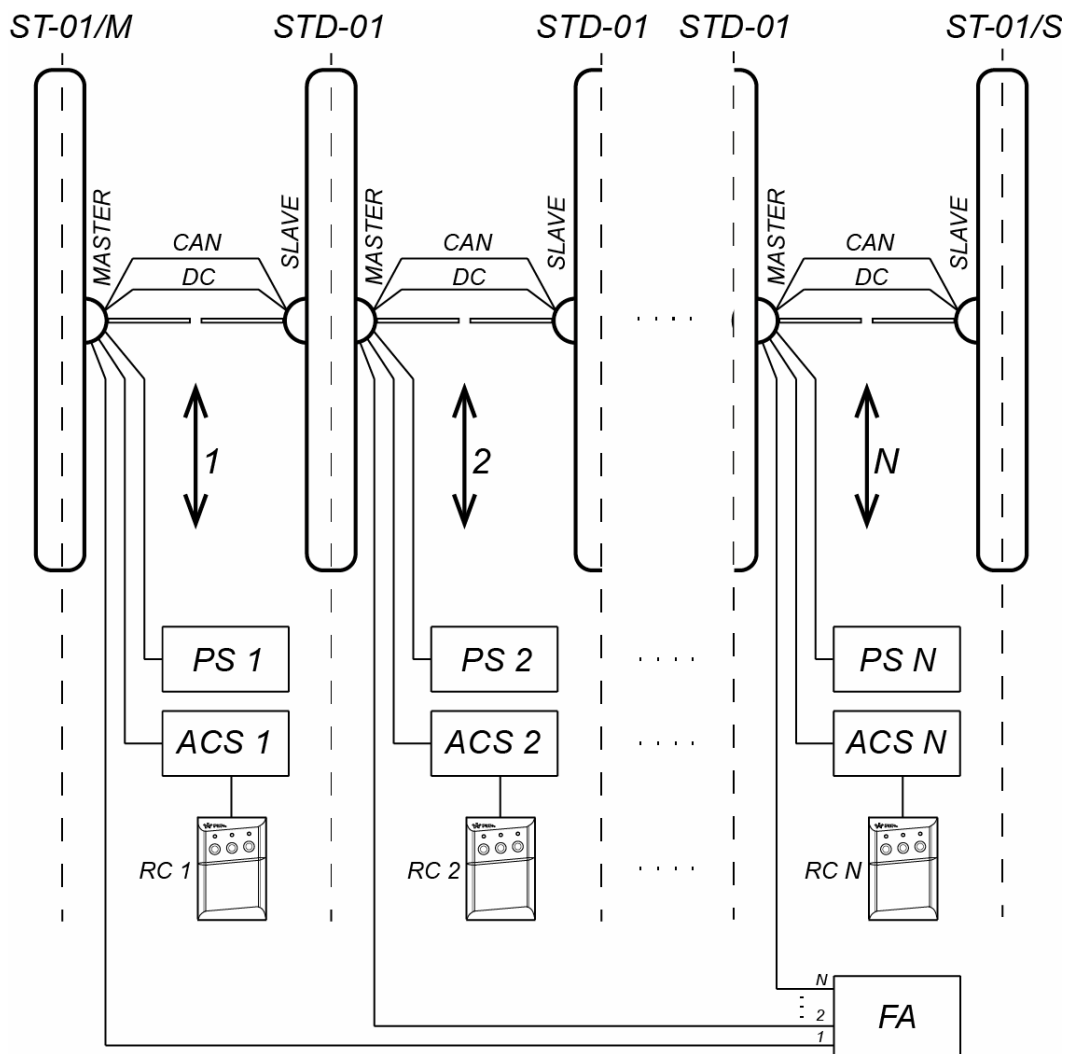
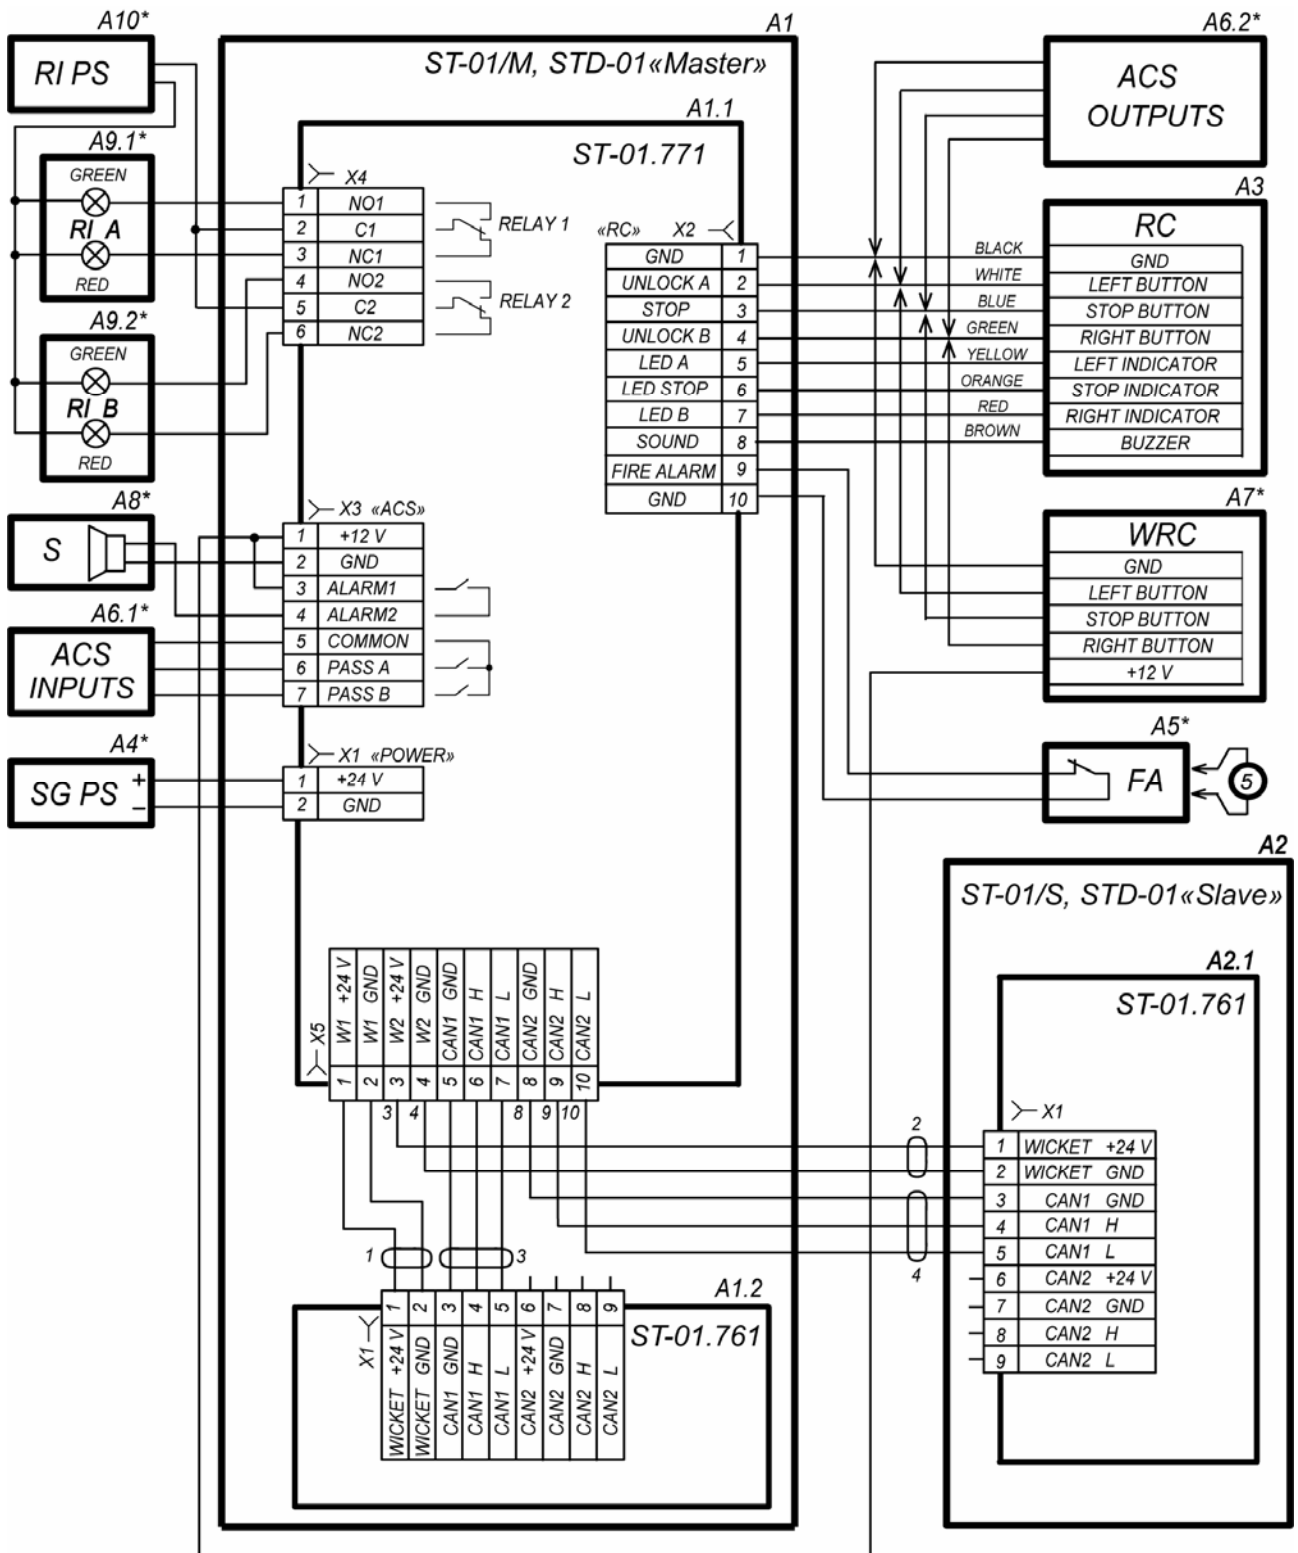

Figure 17. ST-01 speed gate and STD-01 double-sided section wiring diagram
Figure 18. Speed gate wiring diagram
Speed gate connection layout is given in Fig. 18. Types of cables used are stated in Sect. 8.3. The example of **ST-01** and **STD-01** connection layout with extra passage lane arrangement is shown in Fig. 17.
When it is impossible to use flexible conduit for cabling, then it is necessary to route DC and CAN cables prior to the sections installation. These cables are located under the housing of the *Slave* section central post (side of the section). To do so it is necessary to unpack the *Slave* section, dismantle the housing of the central post (see Fig. 19), take out DC and CAN cables and disconnect them from the drive control board. There are numbers on the cut-off ends of the core that correspond to the connection layout (Fig. 18).
14. Route cables for controlling the second passage lane by using the hole located in the base plate of the double-section central post (from the *Master* section side): from PS, from RC-panel or ACS-controller, from the Fire Alarm device and from optional equipment. Route DC (19) and CAN (20) cables from the *Slave* section (side of the section) or a flexible conduit for cabling.
20. Connect cables to the control board of the first passage lane according to the speed gate electric connection layout (see Fig. 9 and Fig. 18). The control board is located in the bottom side of the *Master* section central post.
DC (2) and CAN (4) cables should be connected to the **X5** terminal blocks of the *Master* section control board and to **X1** terminal blocks of the *Slave* section drive board in accordance with the conduit marking (see Fig. 18).